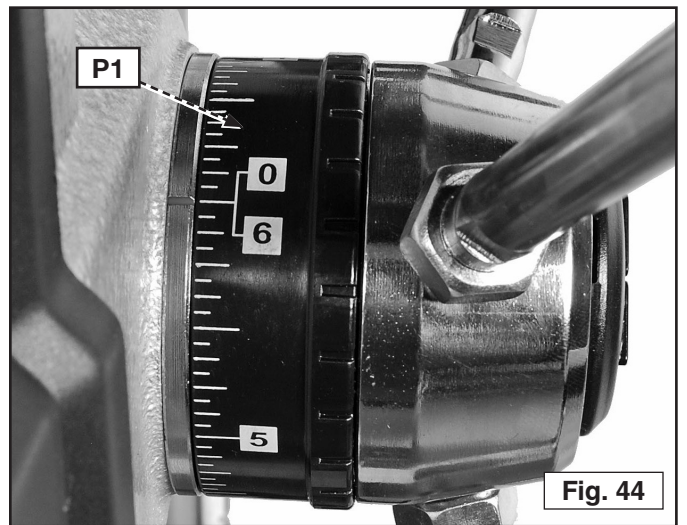

Fig. 44
4. Turn scale on the pinion (P1) Fig. 44 to the zero mark.